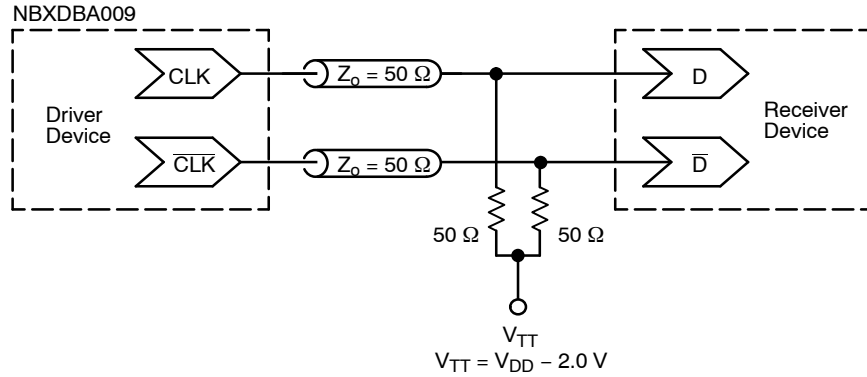

Figure 5. Typical Termination for Output Driver and Device Evaluation
2. Measurement taken with outputs terminated with 50 ohm to  $V_{DD} - 2 \text{ V}$ . See Figure 5.
3. Measurement taken with outputs terminated with 50 ohm to  $V_{DD} - 2 \text{ V}$ . See Figure 5.